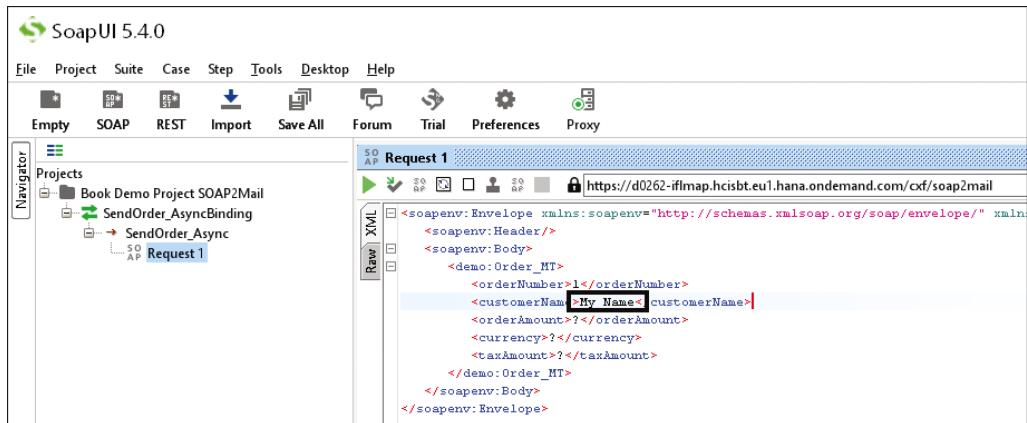

Figure 2.41 Entering Data in the XML Structure
5. Close the dialog box by clicking **Auth (Basic)** again. Make any entries for the elements in the **XML structure**, which can be found in the **Request 1** window. For example, enter your name between the opening and the closing tag for **Customer Name**, as shown in Figure 2.41.